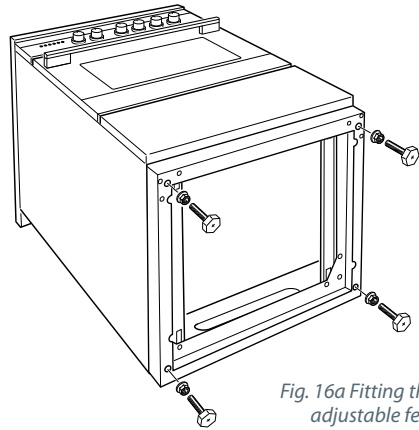

Fig. 16a Fitting the adjustable feet (supplied with the cooker in the feet kit)
- 3 Stand the cooker and level it by screwing or unscrewing the feet with an adjustable spanner. Use the supplied nuts if necessary. See Figs. 16a-16d.